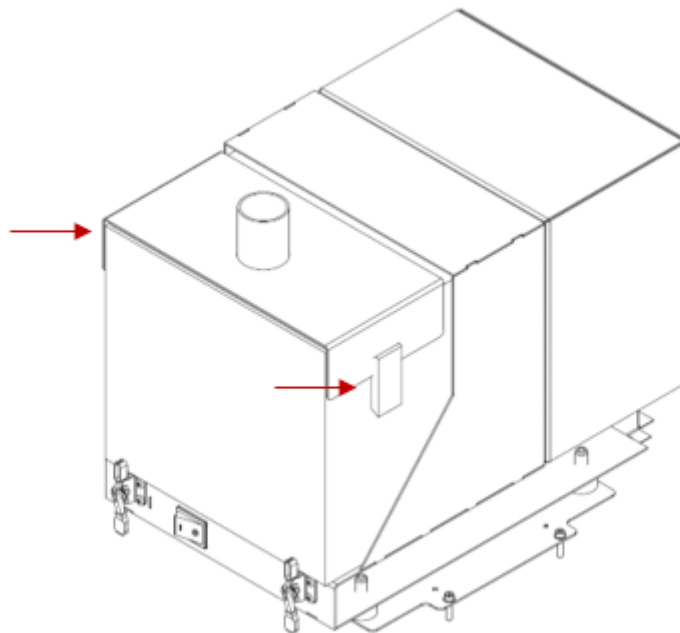

Fig. 138 Replacing the filter cover
9. Replace the top cover and close the clasps securing the filter cover (Fig.138).